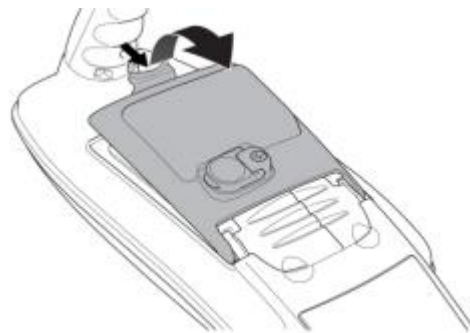

Fig. 4.4: Open the battery compartment
To connect the Li-ion battery pack unlatch the battery compartment (figure 4.4)
1. Open the battery compartment using the release catch (figure 4.4)